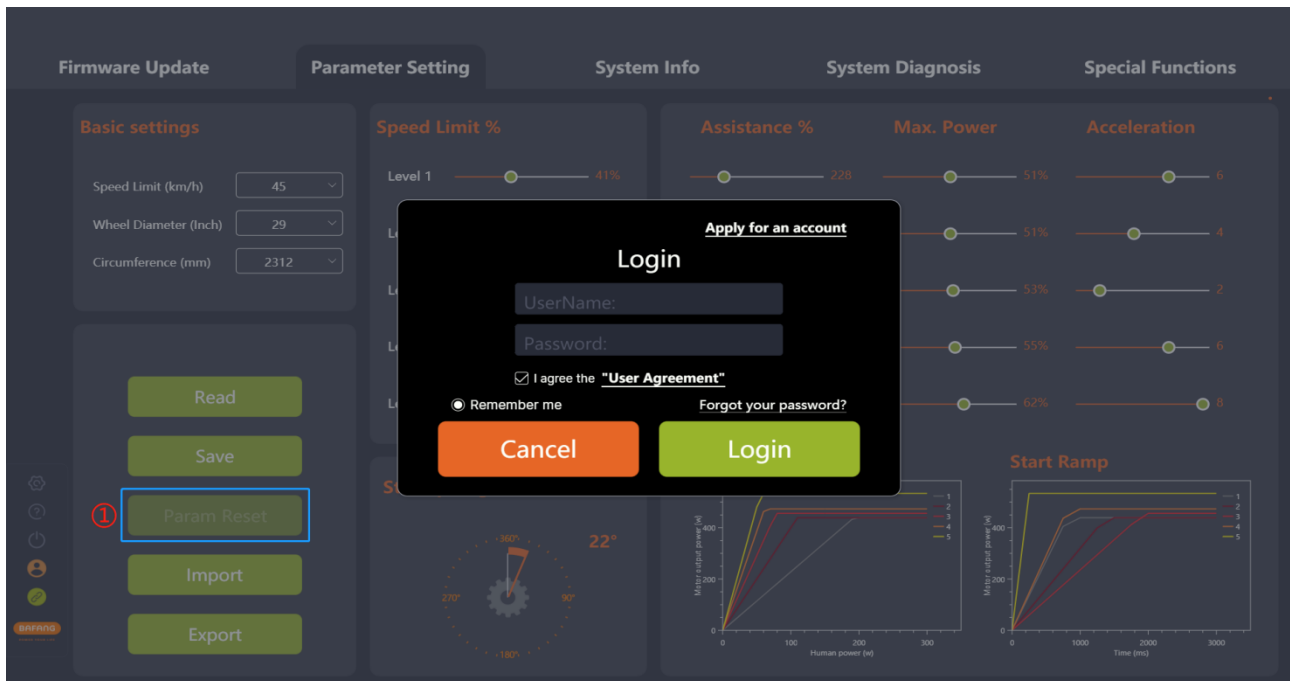

Fig. 5-15 Param reset
- (1) Confirm the connection between the BESST Tool and the controller and click the “Param Reset” . Note: If not logged in will pop up the login interface, will prompt the user to log in (Fig.5-15).
- (2) The parameters are reset to default values.